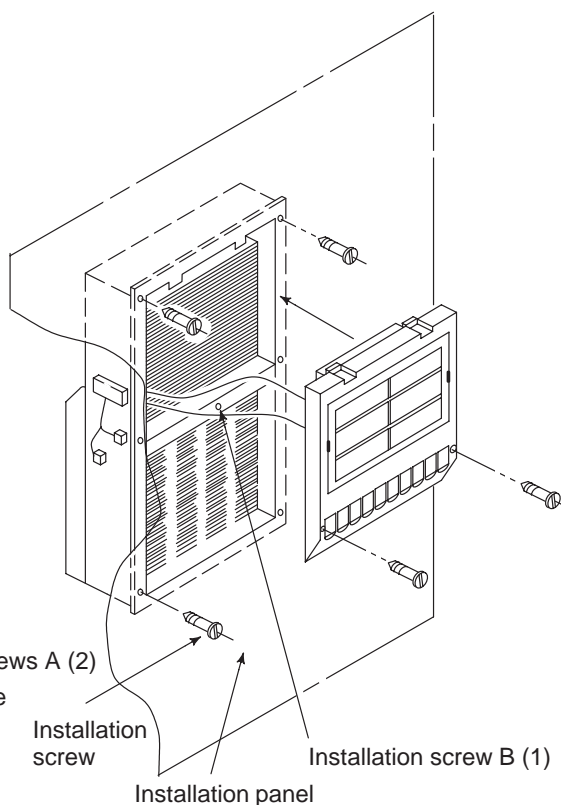

Fig. 2 Install the heat exchanger main unit and the external fan unit
- (2) Install the heat exchanger main unit in the installation section which has been panel cut. (Fig. 2)